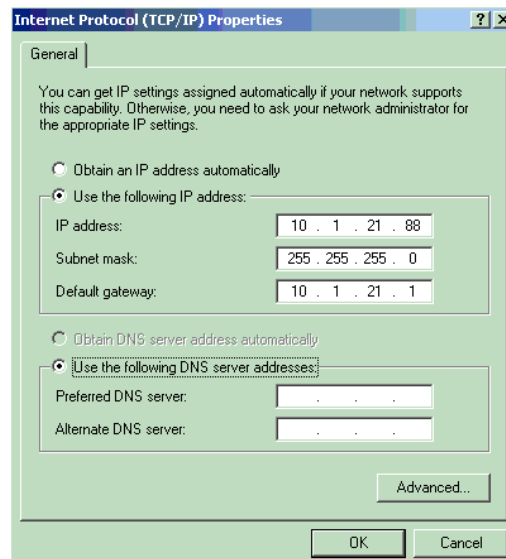

Fig. A2: IP Address menu.
7. When the **Internet Protocol (TCP/IP) Properties** dialog box appears, select **Use the following IP address**. (Fig.A2).